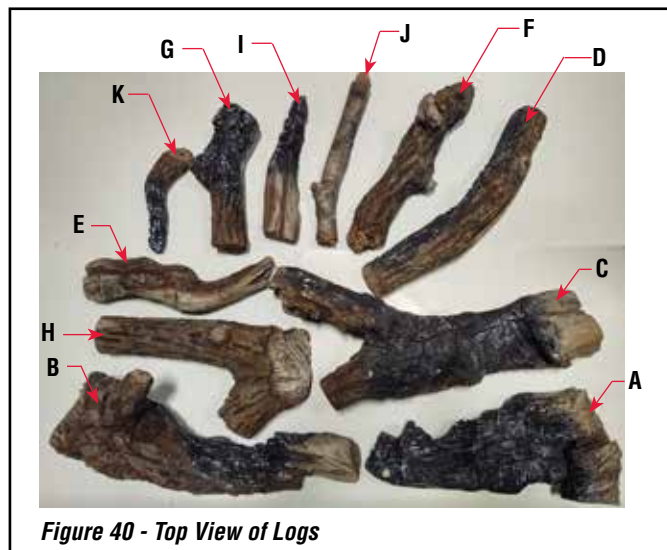

Figure 40 - Top View of Logs
1. Install logs (reference **Figure 40**).